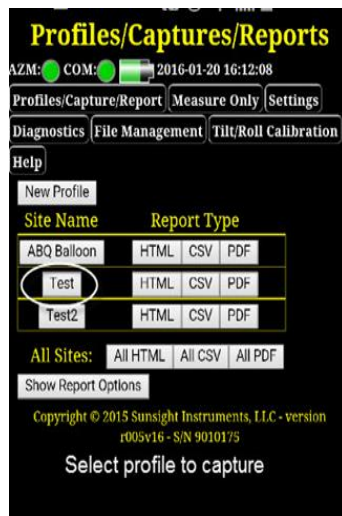

Figure 4-1
- a. Select the profile to be captured by clicking the jobsite name button. See Figure 4-1.